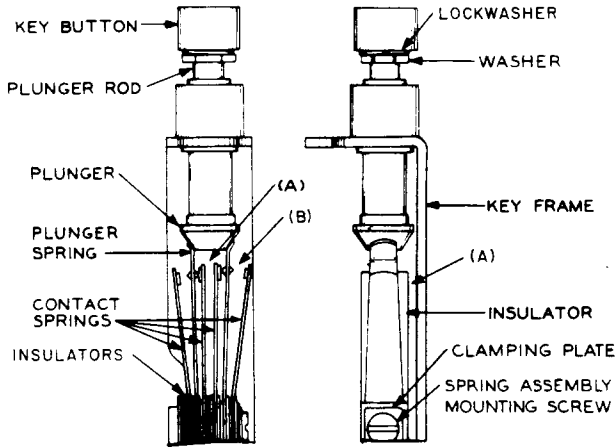

Fig. 7—547-Type Key Equipped With 3-Piece Plunger
(a) Fig. 7(A) and 8—There shall be a clearance between springs designed never to make contact and between any spring and the frame whether in the operated or unoperated position of the key of: